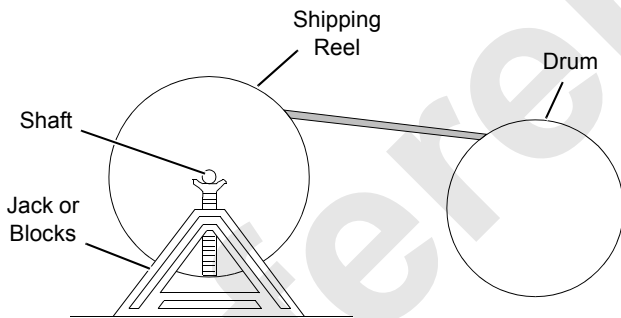

FIGURE 4-39
1. Mount wire rope shipping reel on a shaft supported at both ends by jacks or blocks as shown in Figure 4-39.